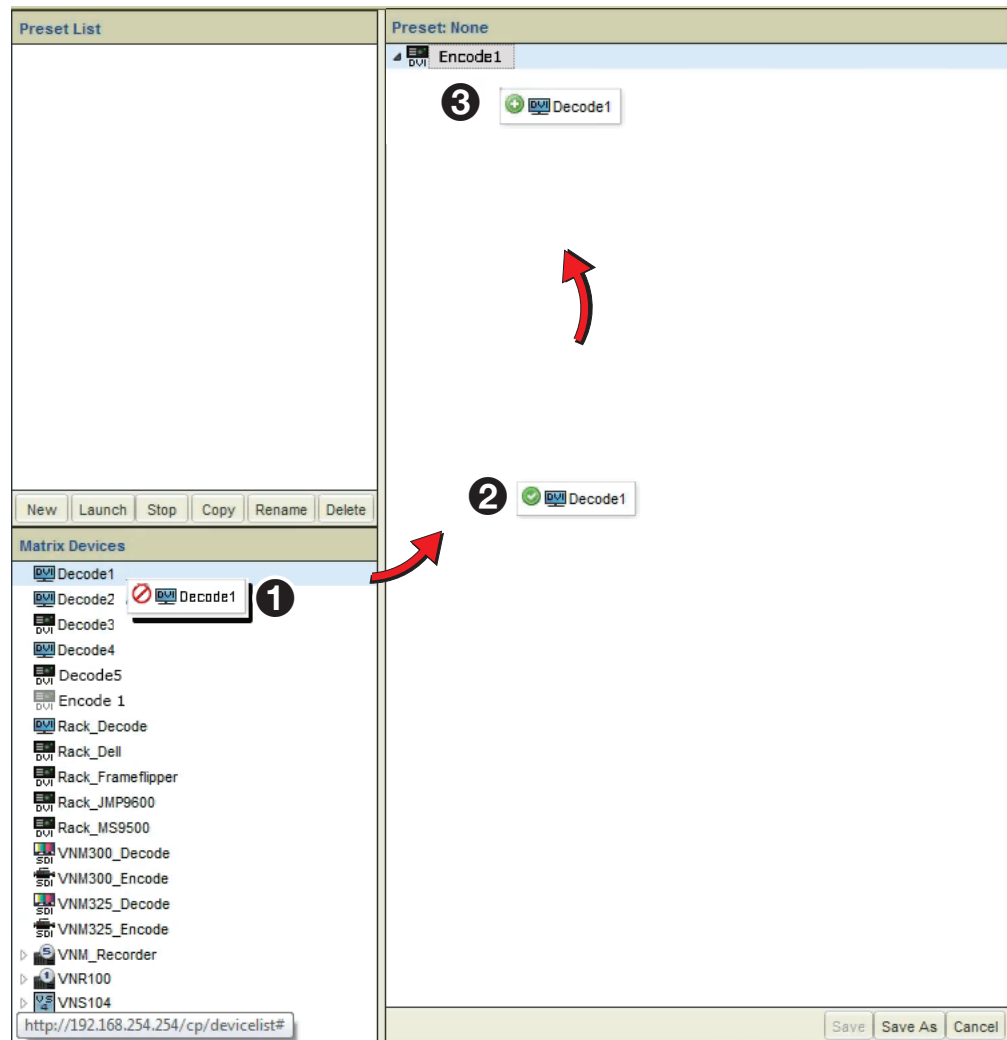

Figure 104. Preset Workspace, Add a Decoder
5. Add a decoder to the **Preset** panel. Click on and hold the desired decoder (see figure 104, ❶).